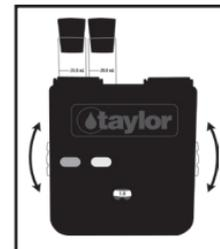

Fig. 2
9. Rotate the color wheel until the color matches. (Fig. 2)